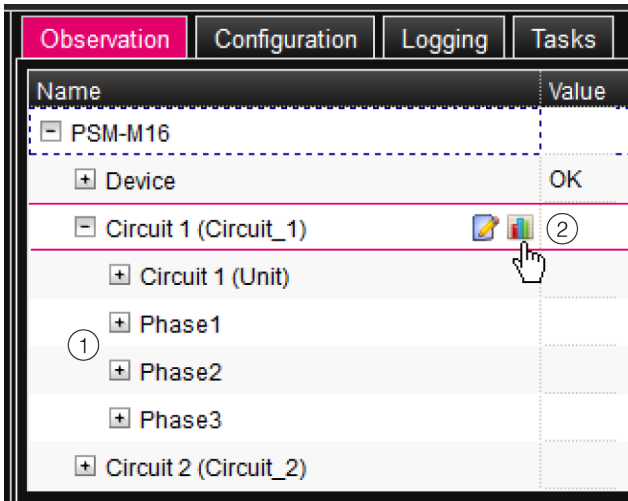

Fig. 7: Tree representation:
If after selection of the "Circuit 1" level, the lower-level "Unit", "Phase 1", etc. entries are displayed (fig. 7, item 1), switch to the tabular representation as follows:
- Click the coloured "graphic" symbol suffixed to the "Circuit 1" entry in the form of a stylised diagram (fig. 7, item 2).
The display changes to the tree representation (fig. 7) and you can access the individual measured and setting values for infeed 1.